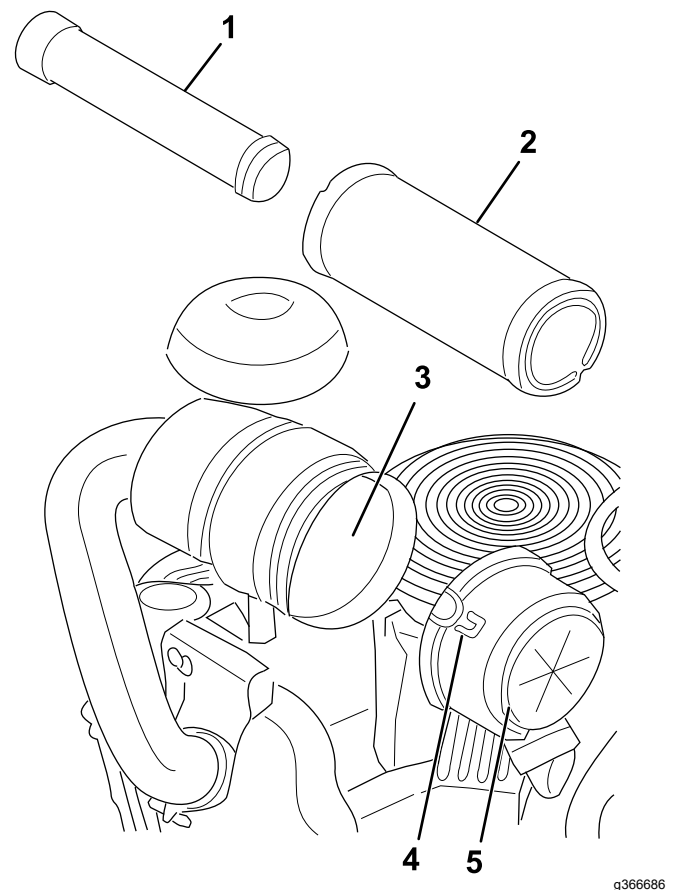

Figure 35
3. Release the latches on the air cleaner and pull the air-cleaner cover off the air-cleaner body (Figure 35).
5. Gently slide the primary filter out of the air-cleaner body (Figure 35).
2. If you are replacing the inner filter, carefully slide it into the filter body (Figure 35).
3. Carefully slide the primary filter over the safety filter (Figure 35).
4. Install the air-cleaner cover and secure the latches (Figure 35).